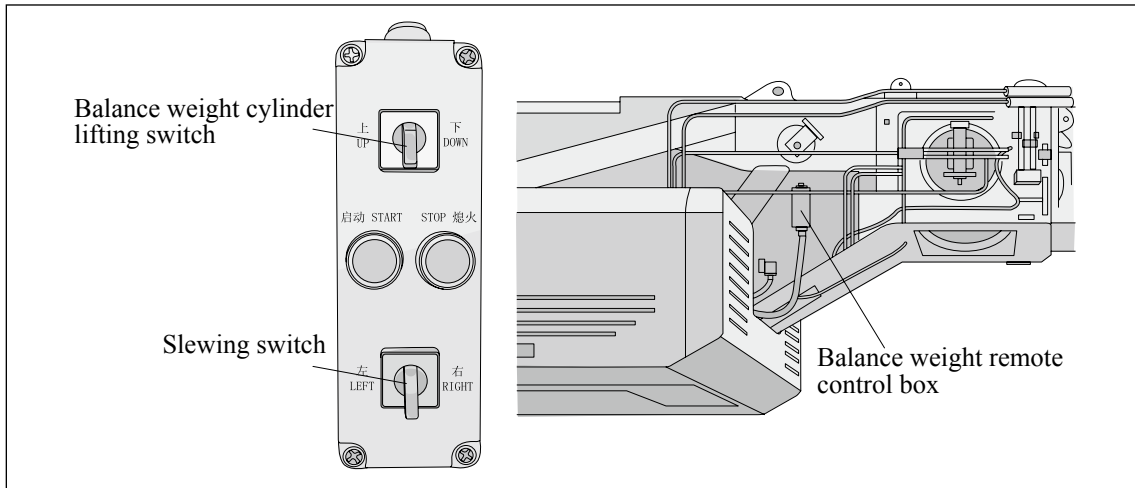
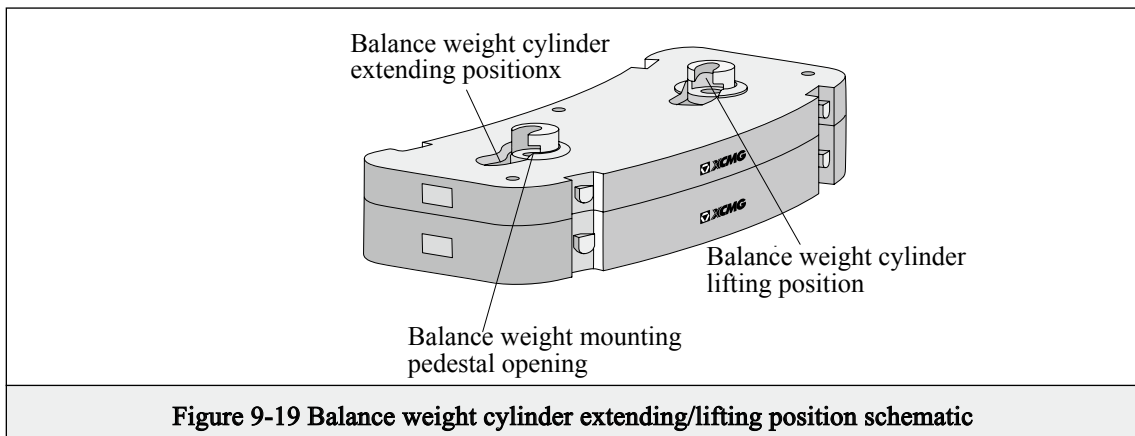

Figure 9-18 Balance weight remote control box (fixed below the turntable left boom hinge rear point)
Figure 9-19 Balance weight cylinder extending/lifting position schematic
5. Operate the "slewing switch" on remote control box (Figure9-18), and slewing runs at low speed, so that the balance weight cylinder is aligned at the "Balance weight cylinder counter weight cylinder extending position" in Figure9-19; adjust slightly the telescopic cylinder stretching length, and align with balance weight mounting pedestal opening (Figure 9-19)
6. Continue to manipulate the "rotary switch" on the remote control box, to realize counterclockwise rotation (turning left), so that the balance weight cylinder aligns with the "balance weight cylinder lift position" in Figure 9-19.
3. Repeat balance weight installation step 4, slowly rotate (rightward) with the "rotary switch" on the balance weight remote control box, and observe that the balance weight cylinder is aligned to the extending position (Figure 9-19);